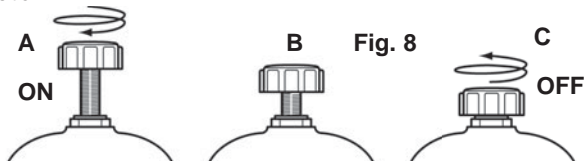

Fig. 8
- Completely unscrew the bypass button on the top of the unit (Fig.8-A), the Dosatron is working and sucking product.
- Completely screw the bypass button (Fig. 8-C), the Dosatron stops (no more noise) and does not suck product any more. The water continues to flow through the unit.
**ATTENTION :** The median position is the draining position (Fig. 8-B). It is normal that the bypass screw is leaking when the bypass is in the median position.